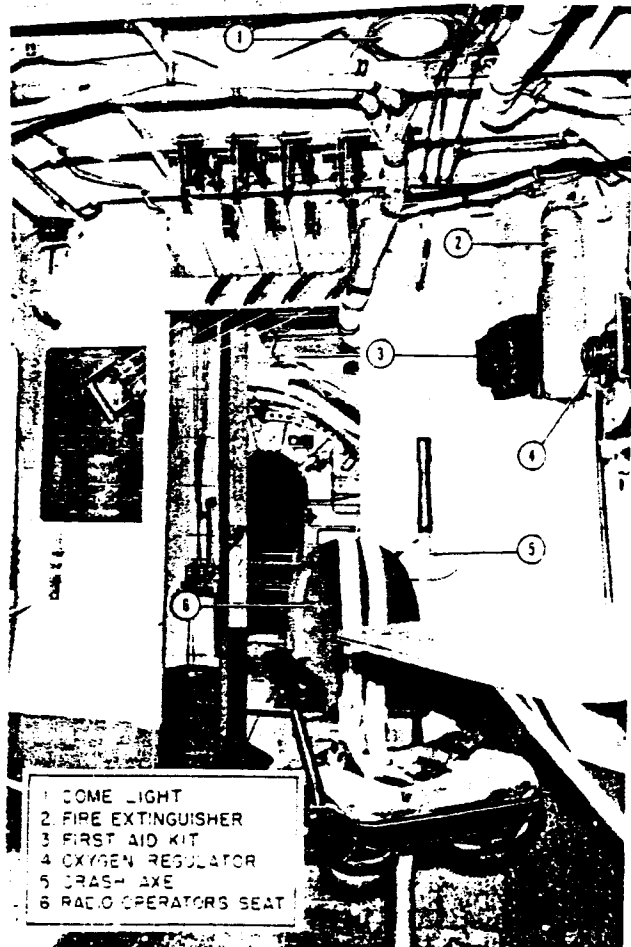

Figure 9. Radi Operator's Station
a. INTERPHONE.- The radio operator's interphone jack box is located on the cabin wall above the table. The interphone amplifier is mounted on the lower radio shelf, forward of the radio operator's position. (See figure 9.)